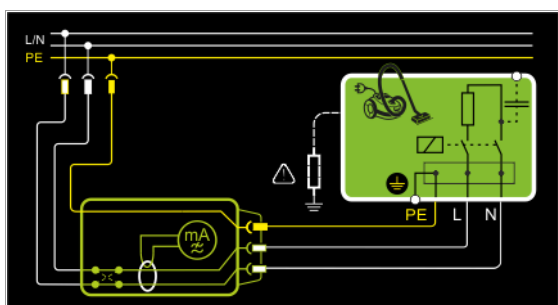

Figure 2/3: The DUT is operated with line voltage. Differential current is measured between mains conductors L and N (current clip concept).
- ⇨ Connect the DUT's mains plug (protection class I) to the test instrument's test socket (see figures 2/4 and 3/4).